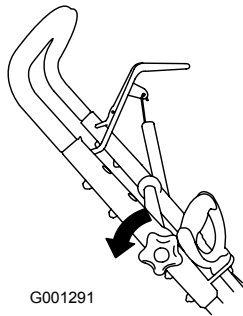

Figure 6
1. Loosen the handle knob (Figure 6).